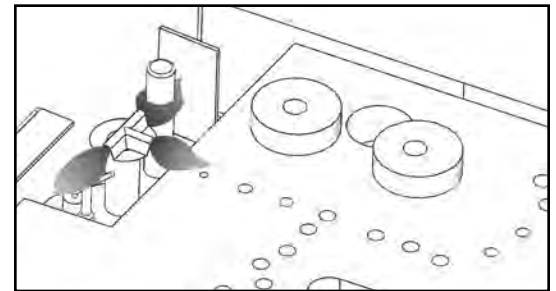

Figure 6: Pilot Flame.
- Turn off the gas to the fireplace. **If not recently done, remove the door and let the unit air out for at least five (5) minutes to clear out any gas.** Turn on gas to the heater. Leak test all joints with soapy water. **NEVER USE OPEN FLAME FOR LEAK TESTING.**
- Start the pilot by pressing the gas control knob and turning it to PILOT. While holding the gas control knob in, press the piezo ignitor several times until the pilot light starts. Hold the gas control knob in for 30 seconds. Check that the pilot has fully engulfed the thermocouple assembly (refer to Figure 6).
Periodically do a visual check of the pilot flames. One flame should encompass the ignitor and thermocouple and the other should burn over the burner ports (see Figure 6). Also check that the burner is operating correctly, refer to Figure 59 or the Front Cover.